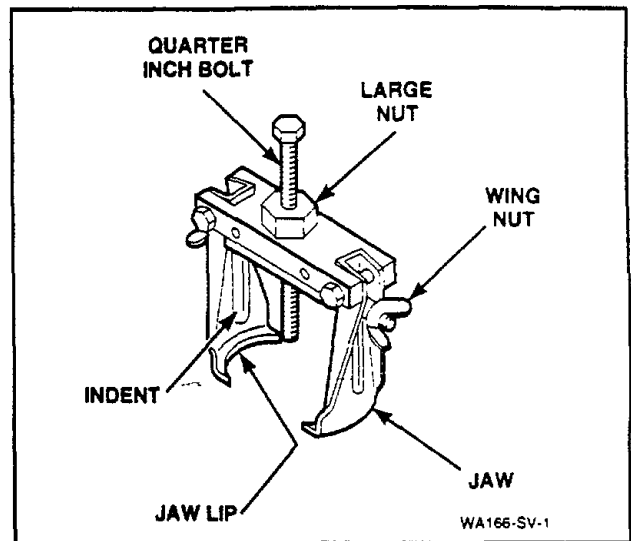

Figure 16
- Back the bolt out of the tool approximately three quarters of the way, *Figure 16*.